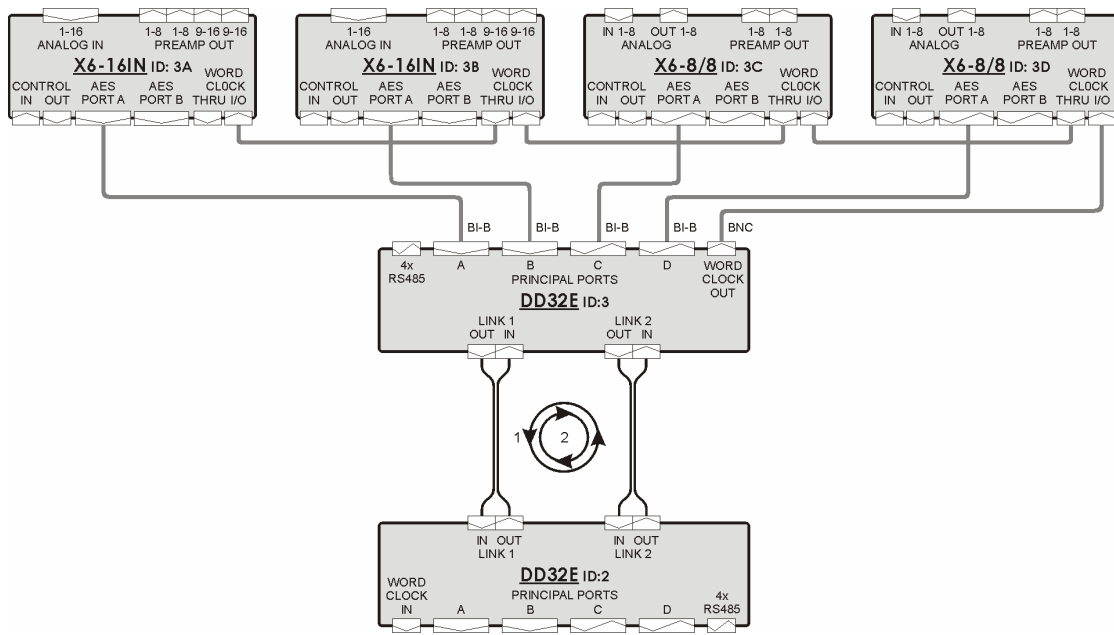

Fig. 3: Redundant network with two DD32E and four X6 converter units in a simple 48 send / 16 return configuration
In order to connect a principal port of a DD32(E) to an AES port of an X6-series converter device, as shown in Fig. 3 in the chapter “Network Examples”, a BI-B D-Sub-25 cable is used. All adjustments concerning the definition as inputs or outputs is done by OPTOCORE CONTROL under *SET / LOCAL SETTINGS / PORT SETUP*: